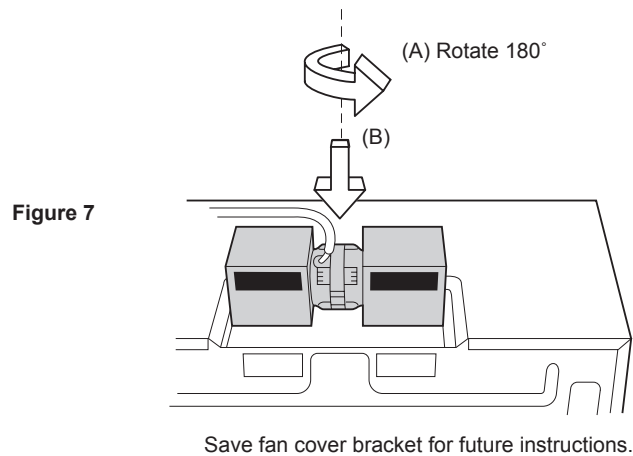

Figure 7
3. Rotate the HOOD FAN UNIT 180° so that the fan blade openings are facing the back of the oven. See Figure 7 (A). Replace HOOD FAN UNIT into the oven. Be careful not to pinch the wire and the HOOD FAN UNIT. See Figure 7 (B).